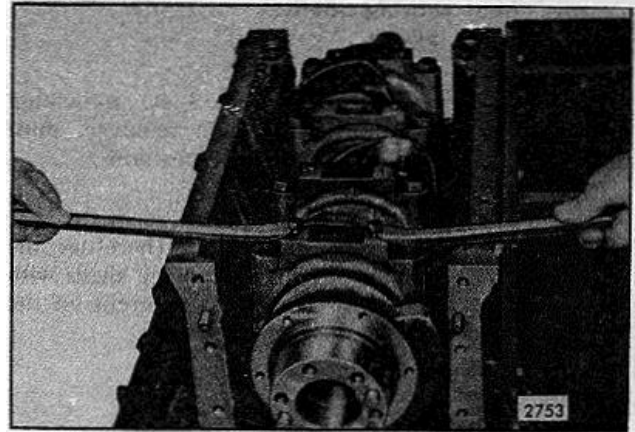

FIG. 2 - Removing Main Bearing Cap
4. Remove one main bearing cap at a time (Fig. 2) and inspect the bearing shells as outlined under *Inspection*. Reinstall each bearing shell and bearing cap before removing another bearing cap: